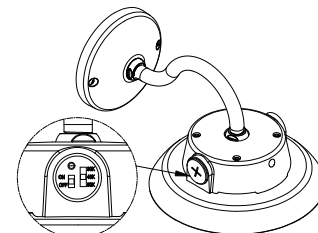

Fig.4.
5. CCT switch is located on the side of the fixture (fig. 4). Adjust the switch to desired color temperature of 3000K, 4000K, or 5000K. Note: Fixture is preset to 3000K from factory.